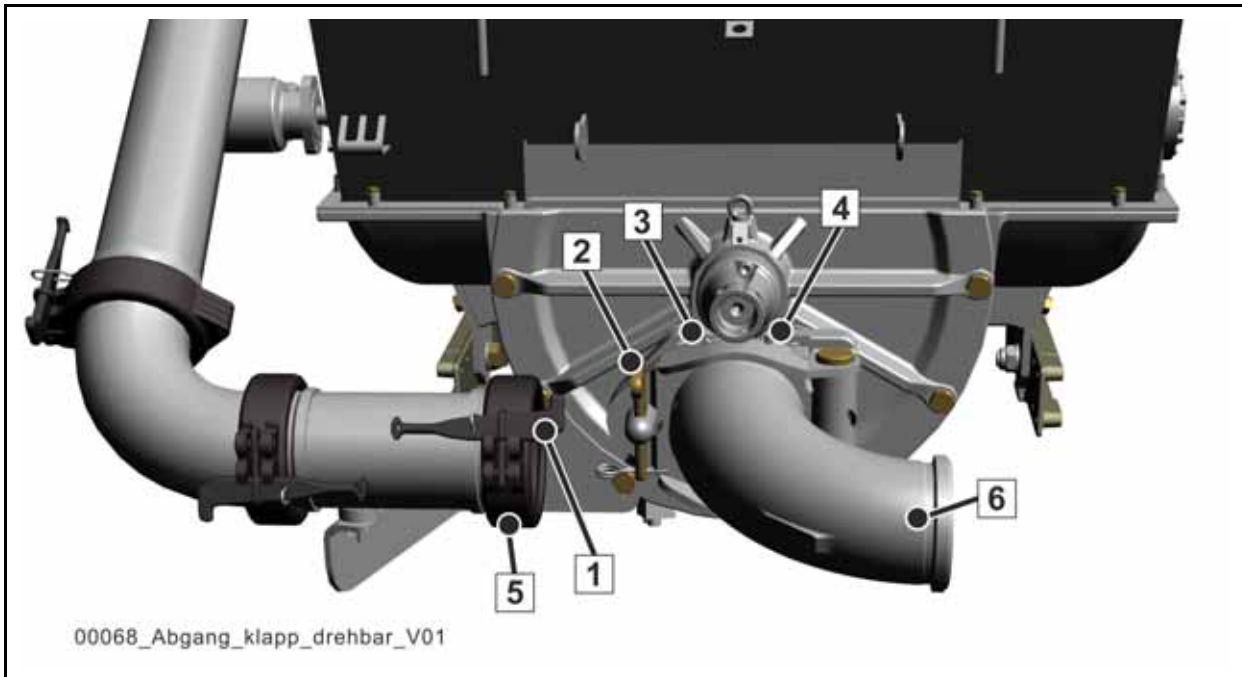

Fig. 156 Outlet, foldable and rotatable
In order to connect a separate pumping line more easily, certain SCHWING truck-mounted concrete pumps can be optionally equipped with a foldable and rotatable outlet (6; **(Fig. 156)**).
- Pull the clip pin and remove the wedge (1) and coupling (5) first
- Pull the clip pin and remove the wedge (2)
- Loosen both the safety screw (4) and the second safety screw offset by 180° by approx. half a rotation
- Rotate the foldable and rotatable outlet into the required position (e.g. 6; **(Fig. 156)**) and fold it back
- Reinsert the wedge (2), but do not hammer it in place yet
- If necessary, correct the position of the foldable and rotatable outlet and then hammer the wedge (2) down. Secure the wedge using the clip pin.
- Reattach the upper and lower safety screws (4) Connect a separate pumping line.
Once a week, squeeze some lubricating grease into the grease nipple (3) (**Fig. 156**) and into the second nipple offset by 180°.